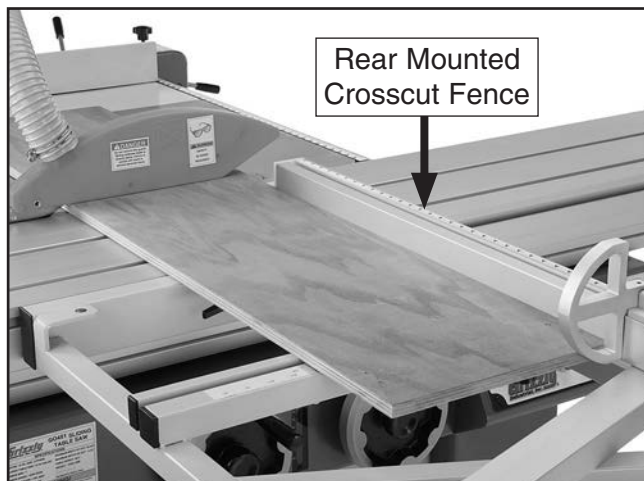

Figure 90. Crosscutting smaller panels.
Mounting the crosscut fence in the rear position (**Figure 90**) gives greater stability for crosscutting smaller panels.
4. Load the workpiece onto the table saw. The set up should look similar to **Figure 90**.